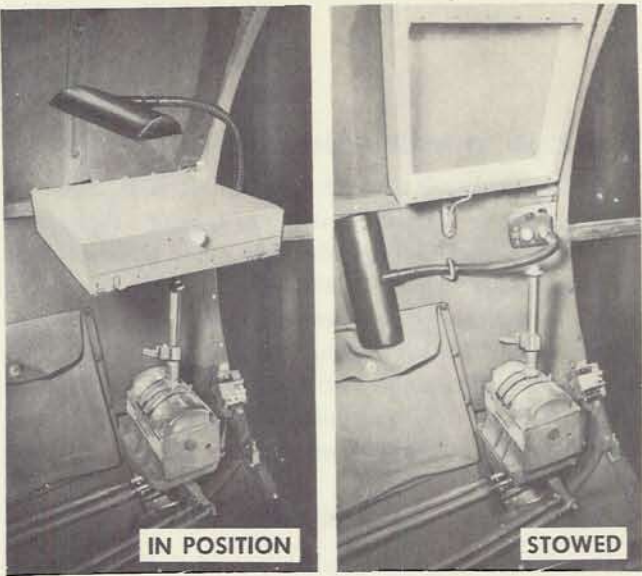

Figure 31—Bombardier's Table
(3) A flexible fluorescent lamp (fig. 31) is provided for illumination of the bombardier's table (fig. 31) or the bomb sight. Operate toggle switch (fig. 31) adjacent to base to turn "ON" or "OFF."
(2) Set the bomb bay selector control lever (fig. 31) to its extreme rear position. This lever is provided with a thumb controlled lock which must be depressed (handle grip pulls up—thumb button remains steady) before fore and aft movement may be attained in any of the three quadrants provided.
c. **BOMB BAY DOORS.**—The bomb bay doors may be test opened by placing the bomb bay selector control lever (fig. 31) in "SELECT" position. When signal panel lights (fig. 33-6) glow, the doors are open. Close the doors by returning the selector lever (fig. 31) to its extreme aft position, and ask the radio operator over the interphone to check that the doors are definitely shut.
(2) Move the bomb bay selector control lever in line with the forward bomb bay quadrant (fig. 31) and shift it forward to "SELECT" position.
"SEL" position of bomb control unit (fig. 31) automatically arms the bombs.
(6) When over firing point, lift the guard covering either the right or left bomb release toggle switch (fig. 31 or 34), and press *down*. This will release the bomb, and a red light will automatically appear for about 5 to 6 seconds on the upper aft end of the right engine nacelle, and will warn friendly aircraft not to dive under the bomber. The white lights on the signal panel (fig. 33) corresponding to the bombs just dropped will cease to glow.
(7) Additional bombs may be dropped by repeated movement of either the right or left toggle switches (fig. 31 or 34).
(8) When through dropping bombs, close the bomb bay doors by setting the bomb bay selector control lever (fig. 31) in its extreme aft position.
(1) Bombs are dropped from the aft bomb bay in the same manner and sequence as described under paragraph 5 b, *except the rear bomb bay doors* are opened by setting the bomb bay selector control lever (fig. 31) in its "SELECT" position in the extreme *left* quadrant, and placing the proper bomb rack selector switches (fig. 33-10) in their "ON" position.
(4) Set the bomb bay selector control lever (fig. 31) in line with the bomb bay quadrant desired, and shift forward to "SELECT" position.
(5) Select the bomb rack selector switches (fig. 33-4, 10) corresponding to the forward or aft bomb bay (same as the bomb bay selector control lever, fig. 31).
Place bomb bay door control (fig. 31) in salvo position. Bombs will release after doors are open, unarmed unless separate nose and/or tail fusing solenoid control is provided and placed in "ARM."